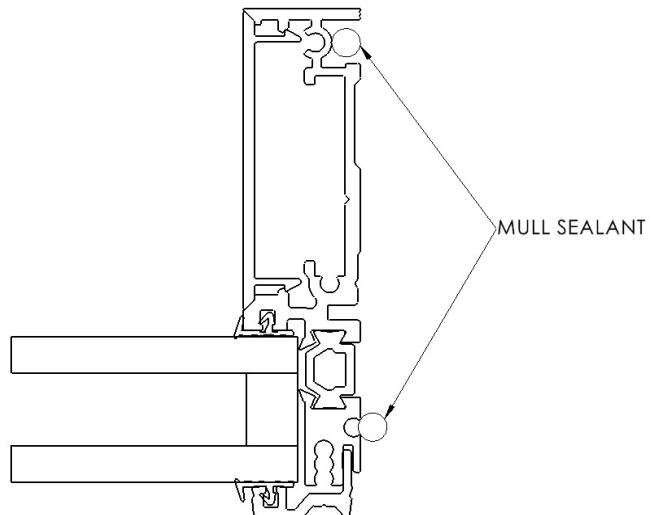

Figure 7
6. Apply a 1/4" diameter bead of Dow 795 sealant or equivalent sealant in the mull clip grove and at the sealant grove. (See Figure 7)